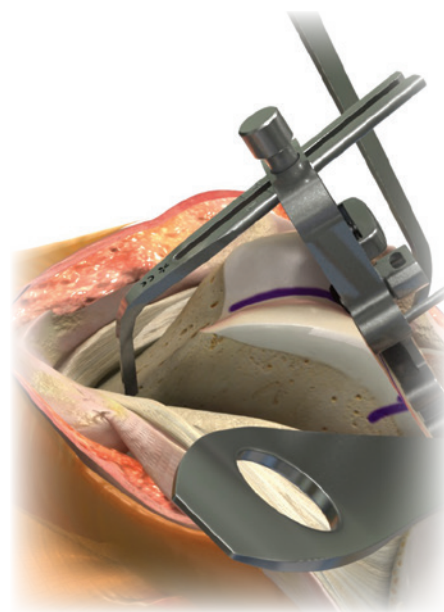

Figure 16c
5. In order to determine femoral size, position the stylus tip just lateral of the anterior trochlear sulcus and slide the Femoral Sizer housing down until the stylus touches the anterior cortex. The size is indicated against the laser marked “SZ” (Figure 16c).